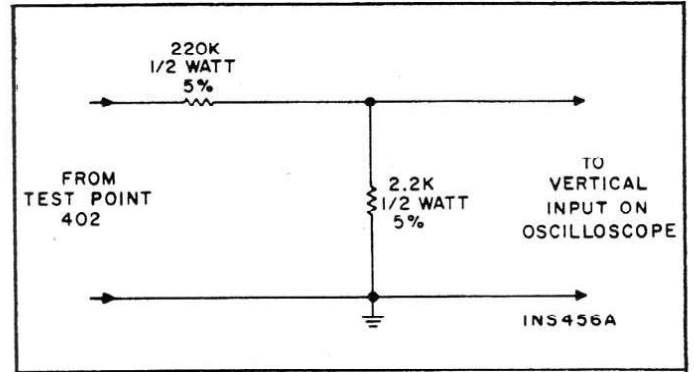

Figure 11. Voltage Divider Probe.
- (2) Connect DC VTVM to Test Point 403 (pin 4G on AM/FM IF, MPX board).
- (3) Adjust cores of Z401 and Z402 (on AM/FM IF, MPX board) for maximum reading on DC VTVM.
- (4) Connect output of audio generator, set for 1 kHz, to the external modulation input of MPX generator and to external sync input of an oscilloscope. Adjust audio generator level for composite signal  $\pm 75$  kHz deviation (10% pilot, 90% audio).
- (5) Connect AC VTVM to LEFT RCDR OUT jack. Connect scope through voltage divider probe (see Figure 11) to Test Point 402 (4K on AM/FM IF, MPX board).